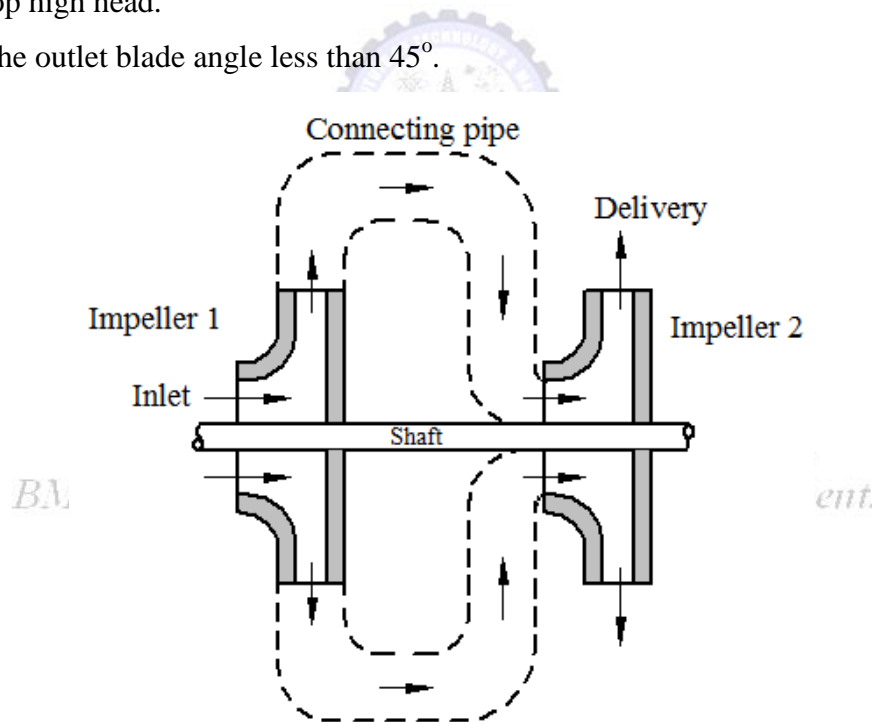

Fig. 6.9 Two stage centrifugal pump
**Answer:** If the centrifugal pump consists of two or more impellers connected in series on the same shaft, then the pump is called multistage pump. The water enters the impeller 1 of a multistage pump with two impellers as shown in figure 6.9 and pressure increases in it. The high pressure water from impeller 1 is then entering the impeller 2 where the pressure increases further. The flow generally is same in both the impeller. The head produced by the combined impellers will be higher than either of one, but need not be sum of them. If 'n' be the number of identical impellers and each produce a head of  $H_m$ , then the total head produced is given by  $H_T = nH_m$ .